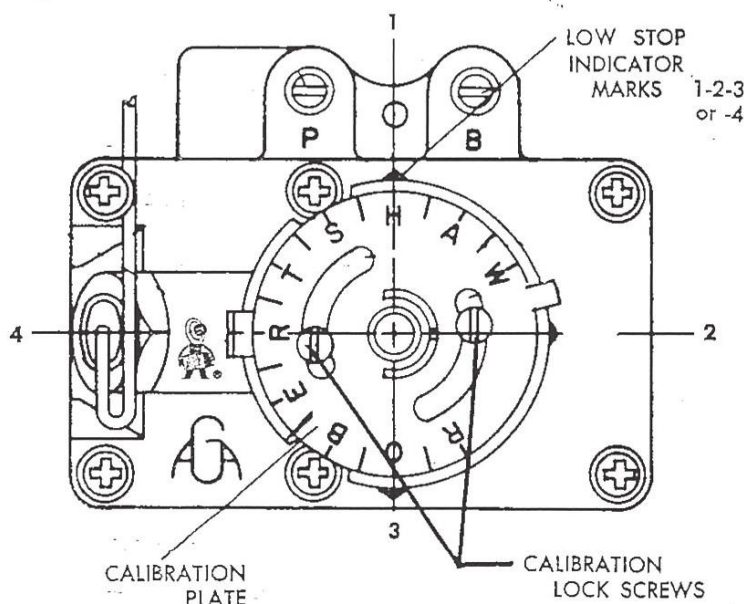

Figure 2
8. A drip leg must be provided in the supply line to the control (see Fig. 2). All piping must comply with applicable codes and ordinances and with the National Fuel Gas Code (ANSI Z223.1/NFPA, No.54).